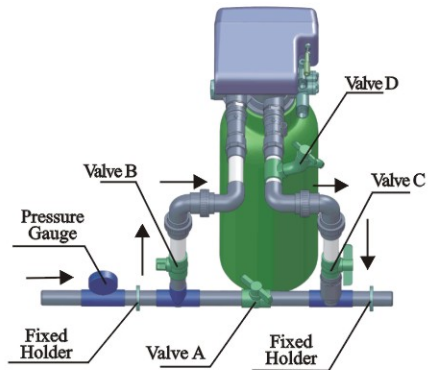

Figure1-3
④ **Pipeline connection**
- a. As Figure1-3 shows, install a pressure gauge in water inlet.